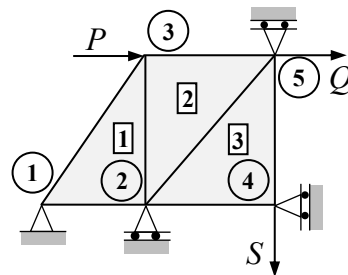

Figure 2
2. Consider the finite element mesh for plane stress problem modelled with 3-noded triangular elements as shown in Fig. 2. The element and node numbers (encircled) are also shown. The element connectivity matrix (the node numbers of each element given as columns) is also shown. (a) Number all the free degrees of freedom and determine the sizes of the reduced stiffness matrix \mathbf{K} and the global load vector \mathbf{R} . (b) Assemble the element matrices to obtain the global stiffness matrix (assume symmetry and assemble only the upper triangular part of \mathbf{K}) and the global load vector corresponding to the free degrees of freedom. Assume the element stiffness coefficients for elements [1], [2] and [3] as a_{ij} , b_{ij} and c_{ij} , ($i, j = 1$ to 6) and the element load vectors due to body force as p_i , q_i and r_i , $i = 1$ to 6. In addition to the body force field, three concentrated loads P , Q and S act at nodes as shown. [8]